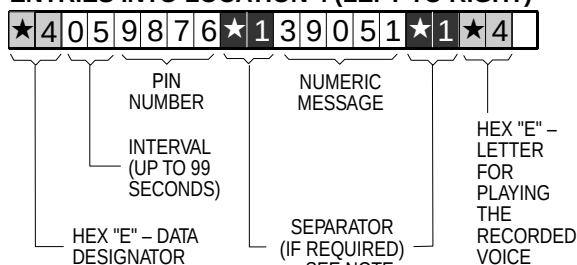

Figure 7. Programming the Pager's 2nd Location
- Suppose the target pager requires a 5 second interval between the end of dialing and the beginning of the message. Also suppose that the PIN number is 9876 and the message is 39051. Key the data as shown in Fig. 7.